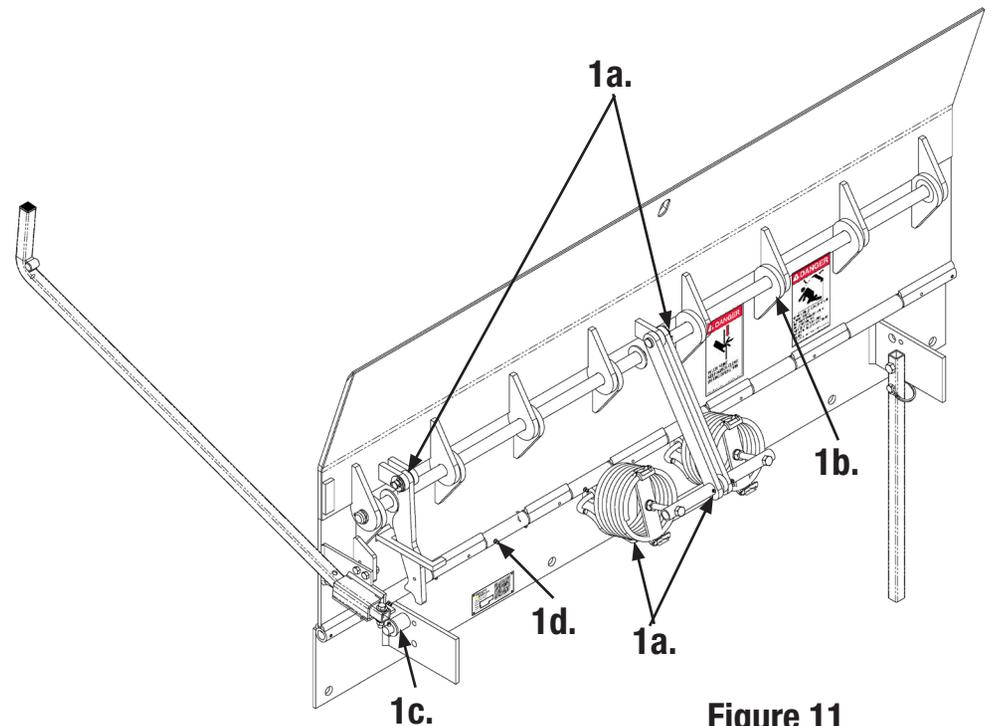

Figure 11
1. Lubricate the following areas with calcium sulfonate complex grease. See **Figure 11**: